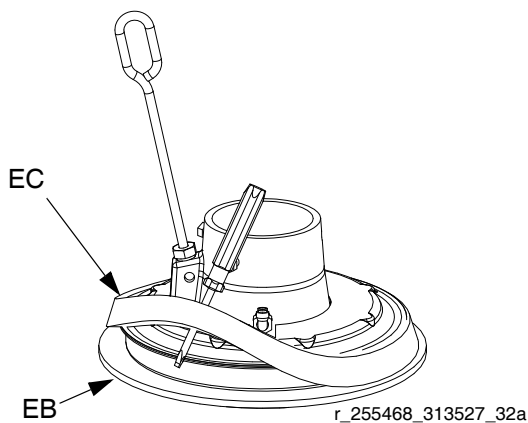

FIG. 17: Installing Spacer
3. *Working from the top*, use screwdriver to position spacer (EC) between flange and wipers (EB). See FIG. 17.